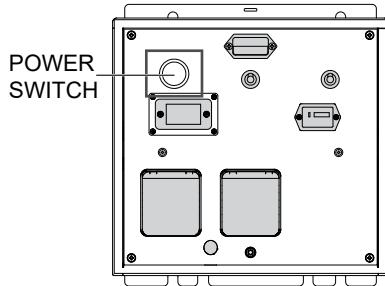

Figure 18. Battery Activation
1. Press and hold the power switch for three seconds. The panel lamp lights for 1 minute (Figure 18).